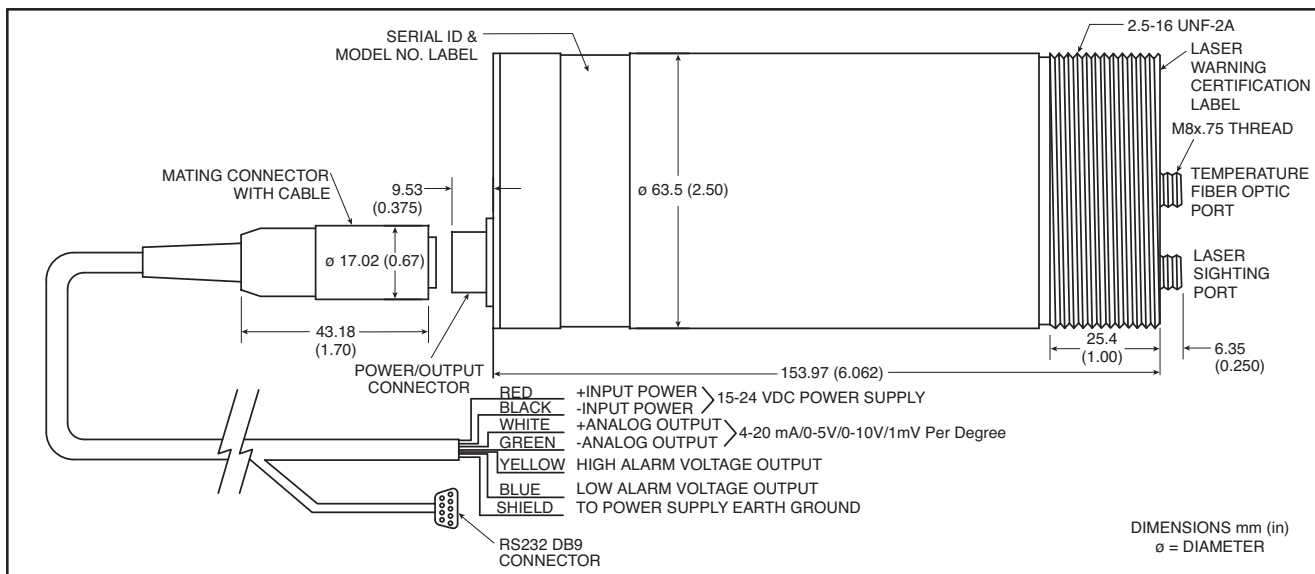

Figure 6. General Dimensions, Wiring Connections for the Transmitter
Figure 6 shows the general dimensions & wiring connections for the transmitter.
- Power the transmitter using a DC power supply. Table 1 (page 2-6) & Figure 6 (page 2-3) show the wiring connections.